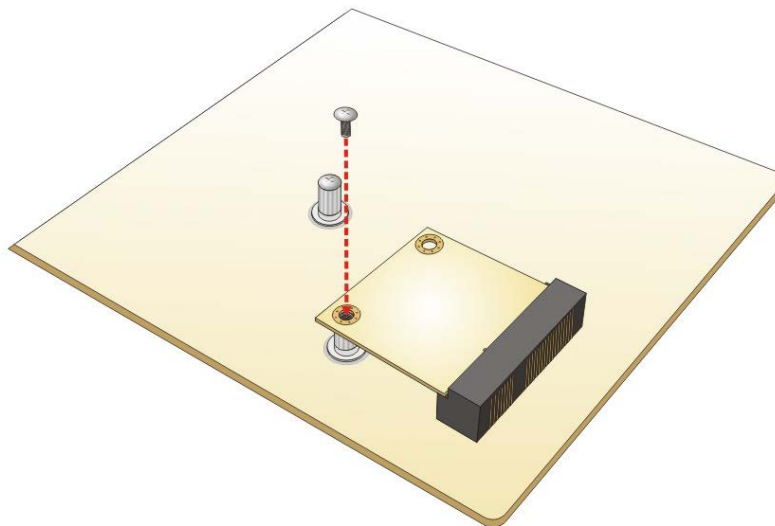

Figure 4-13: Securing the Half-size PCIe Mini Card
Step 4: **Secure the half-size PCIe Mini card.** Secure the half-size PCIe Mini card with the supplied retention screw (Figure 4-13).